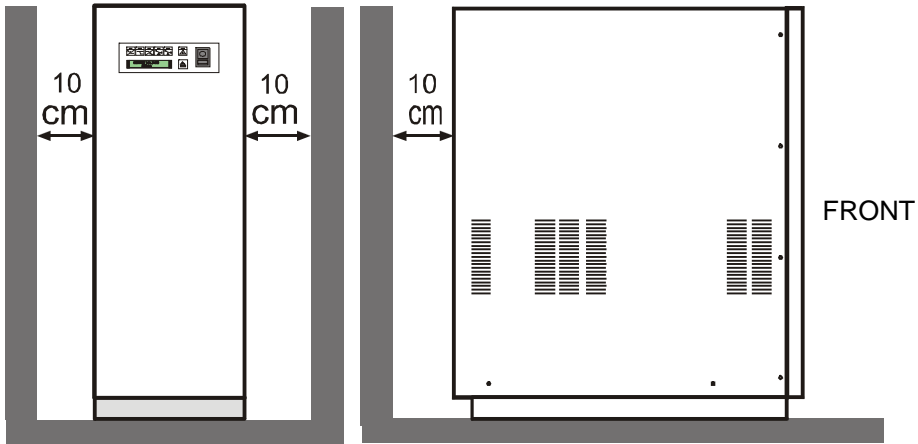

Figure 5
- 2.Allow a minimum distance of 10 cm in the rear and two sides of the Inverter wind/solar (5in1) for ventilation. (Fig.5)